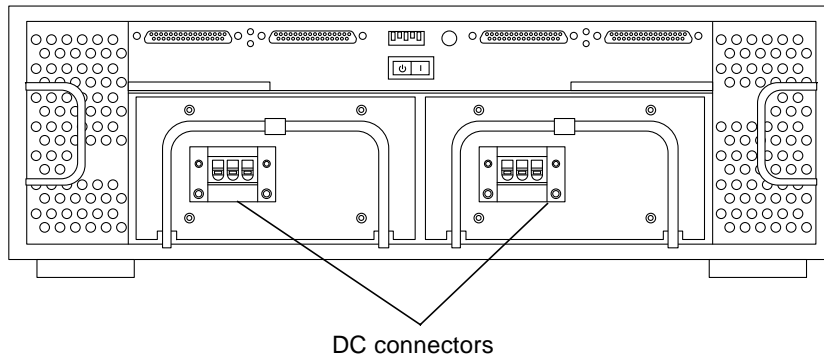
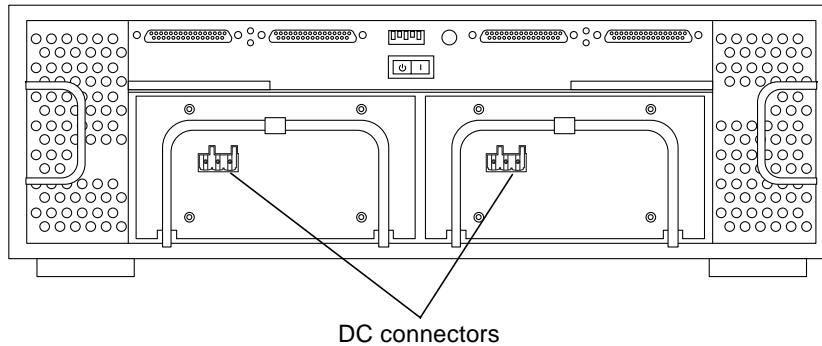

FIGURE 2-1 Netra st D1000 Rear View (DC Version with *POWER-COMBICON* DC Connectors)
FIGURE 2-2 Netra st D1000 Rear View (DC Version with WAGO DC Connectors)
There are two different types of DC connectors used in the Netra st system: the POWER-COMBICON DC connectors and the WAGO DC connectors. Before you can assemble the DC input power cable, you must first determine which of these two connectors is used on the DC power supplies in your Netra st system. Go to the rear of the Netra st system and locate the DC connectors on the power supplies (see FIGURE 2-1 and FIGURE 2-2).
- If the DC connectors at the rear of your Netra st system match the DC connectors shown in FIGURE 2-1, then you have *POWER-COMBICON* DC connectors on your power supplies. Go to “To Assemble the *POWER-COMBICON* DC Input Power Cable” on page 23 to assemble the DC input power cables for those connectors.
- If the DC connectors at the rear of your Netra st system match the DC connectors shown in FIGURE 2-2, then you have *WAGO* DC connectors on your power supplies. Go to “To Assemble the *WAGO* DC Input Power Cable” on page 25 to assemble the DC input power cables for those connectors.